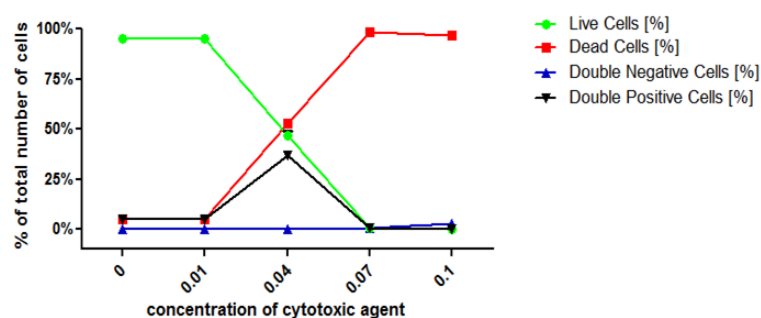

Fig. 1: Results of analysis of DMSO-induced cytotoxicity in HeLa cells using the Cell Viability Imaging Kit together with a Cellvista Analyzer.
Results in Figure 1 show HeLa cells treated with various concentrations of DMSO, and then processed as indicated below:
- In the example shown in Figure 1, final DMSO concentrations in the wells were 1%, 4%, 7%, and 10%; in addition, a control using culture media without DMSO was included.